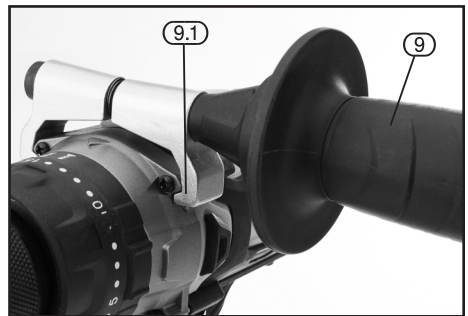

FIG.8
9.8 AUXILIARY HAND GRIP – FIG.8